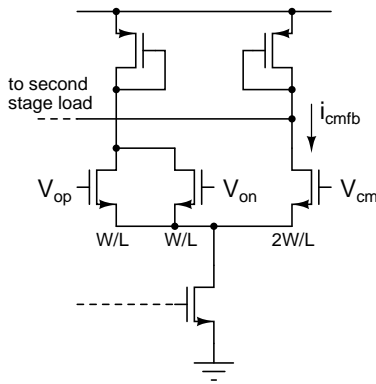

Figure 4: Common mode feedback structure for the folded cascode opamp
2. **Fully differential folded cascode opamp:** Turn the folded cascode opamp designed in the previous assignment to a fully differential version. Use the circuit in Fig. 4 for common mode feedback. Use the
same type of differential pair (nMOS or pMOS) as at the input of your opamp, and the same tail current as in the input stage. Size the load devices of Fig. 4 to have the same current density as in the corresponding transistors in the opamp.